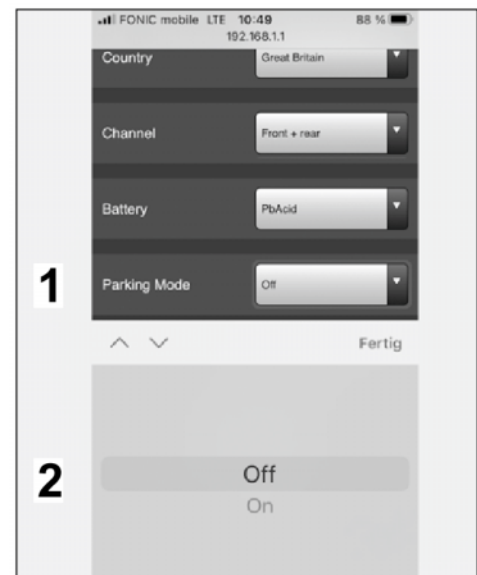

Figure 25
5.3.5 Select Park mode (⇒ *Figure 25*)